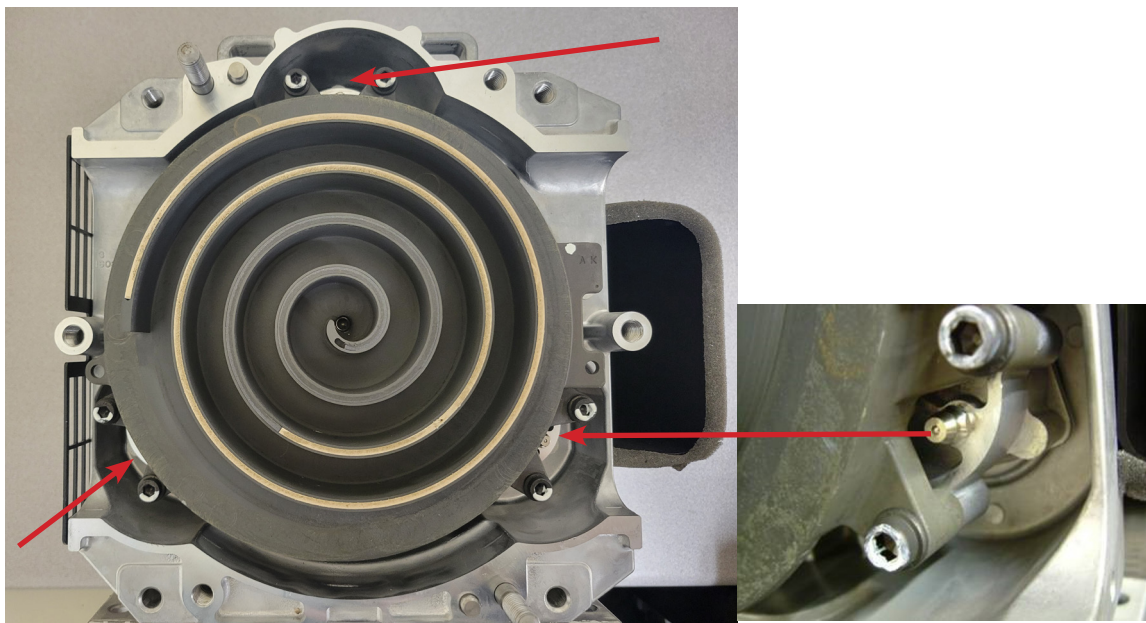

Figure 79: Pin Crank Bearing Grease Fitting
3. Now that the Orbital Scroll (OS) is exposed, the 3 pin crank grease fittings may be accessed as shown in Figure 79.